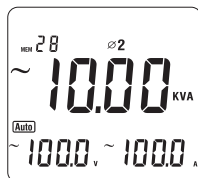

Figure 15
- Then press **SELECT** again to choose the second phase Ø2, see figure 15.